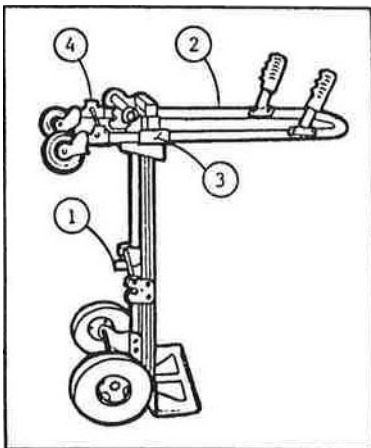

FIGURE 1
1. When the cart is in the 2-wheel position, unlatch the upper handle and carefully rotate the handle so it is parallel to the ground. Slide the handle through the pivot socket until the spreader rod is nested within the handle plate (Figure 1).
1. Press release bar (1) to release "U" handle assembly (2). Lift "U" handle assembly up and push through pivot sockets (3) so that it is parallel to the floor (Figure 1).
2. Using a 9/16" wrench and a 7/8" box end wrench, remove one bolt from each end of the "U" handle. Pull out swivel casters and remove axle spreader (4).
4. Slide "U" handle out through the pivot sockets to remove from the hand truck. Remove the 1/4"-20 x 1-7/8" pan head machine screw from the single grip handle and slide this handle off of the "U" handle. Slide the new single grip handle onto the "U" handle so that it is angled toward the "U" as indicated in Figure 1.